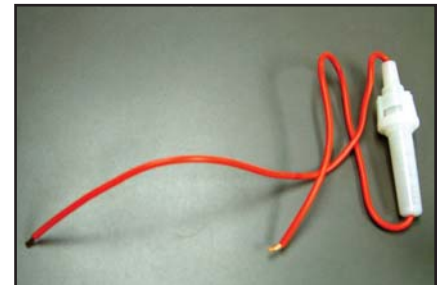
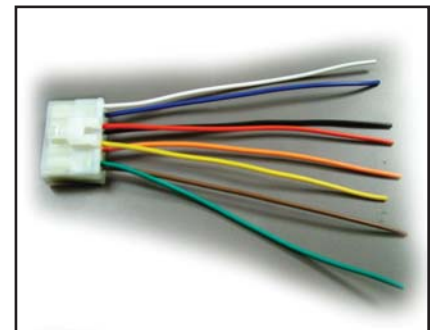

Figure 1 - Fuse Holder Assembly
Figure 2 - Adapter Plug
- Locate the main positive and negative wires for your head light wiring system (most often, the main positive goes directly to the light switch on your dash). Connect the red fuse wire (see figure 1) by cutting the light system positive wire, stripping back both wire ends (where the wire was cut into two pieces), then reconnect using a common butt connector while adding the red fuse holder wire to one end of this new connection. Connect the white wire from the kit's adapter plug (See figure 2), by cutting the negative wire of your cart's light system, stripping back the ends approximately 1/4", then reconnect using a butt connector while adding the white